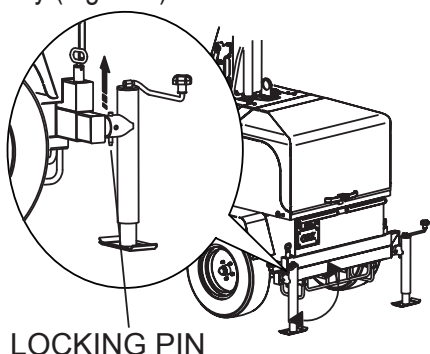

Figure 8. Pulling the Locking Pin
2. Extend all the outriggers by pulling the locking pin on the outriggers and hold while sliding out the outriggers assembly (Figure 8).